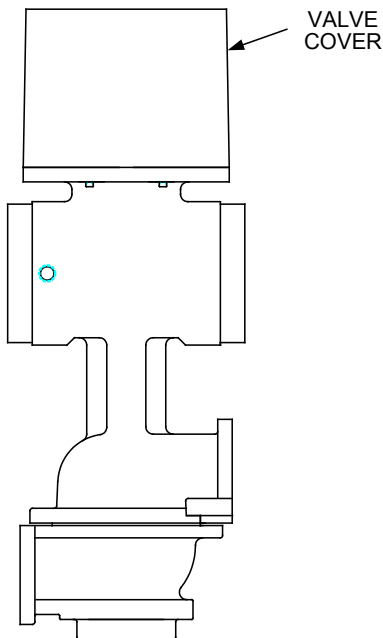

Figure 5.7
2. Remove the air/fuel valve cover by rotating the cover counterclockwise to unlock it and then pulling it towards you. See Fig. 5.7.
2. Remove the air/fuel valve cover (Fig. 5.7) by rotating the cover counterclockwise to unlock it then pulling it towards you.